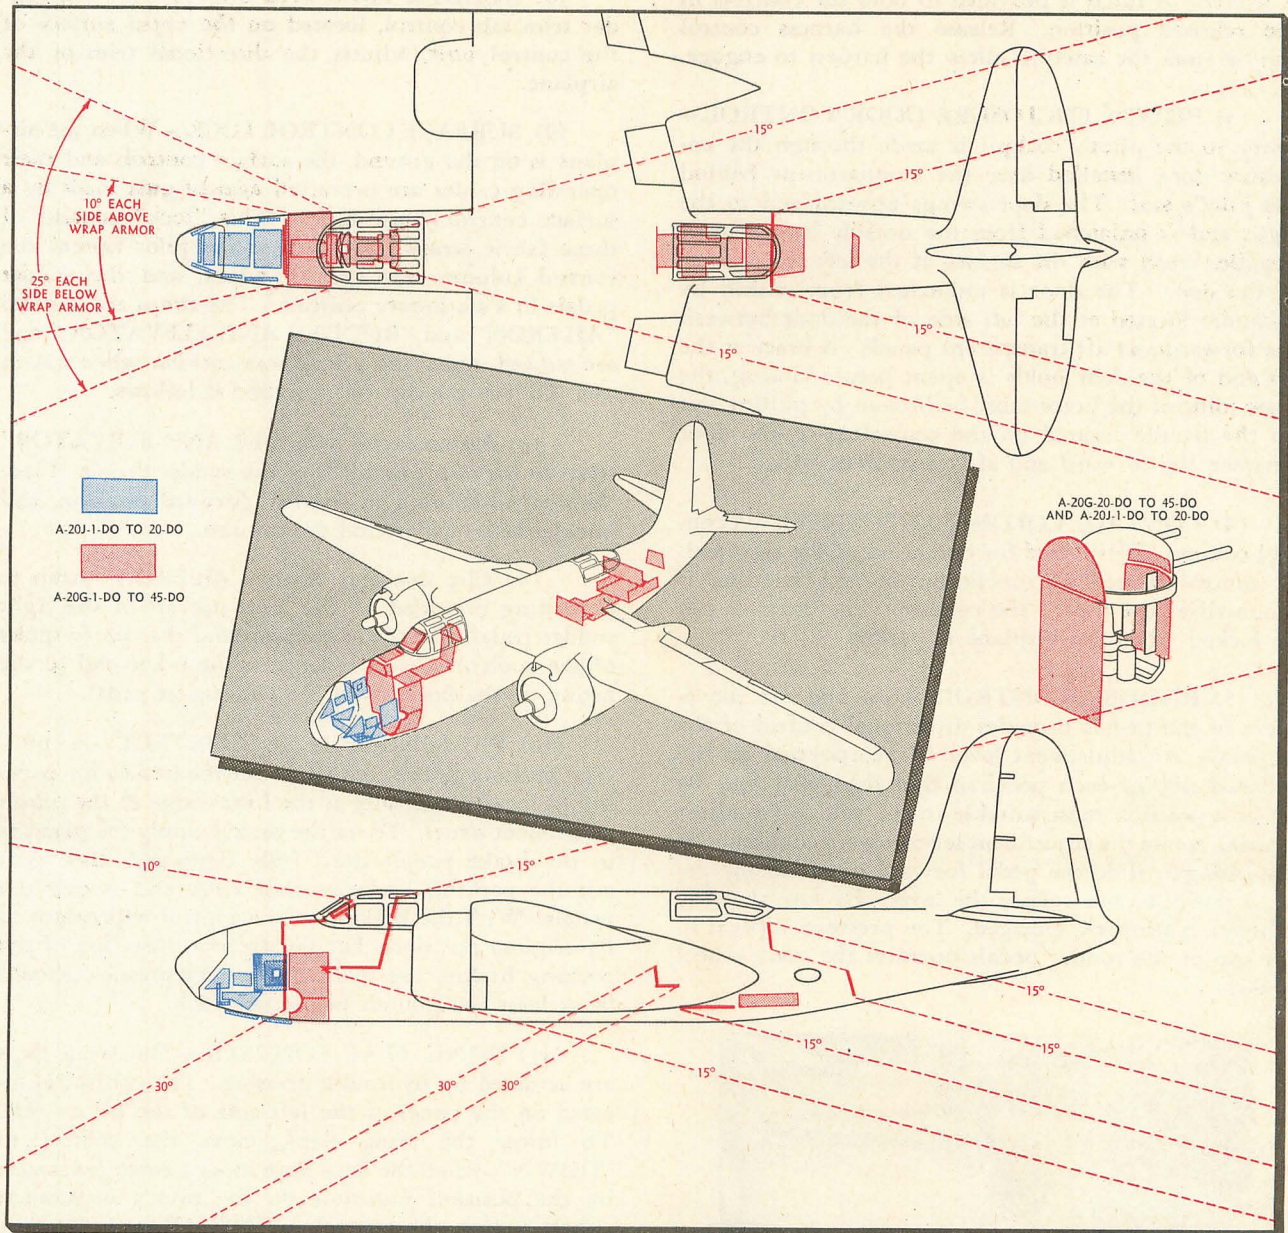

Fig. 7 – Angles of Armor Protection
d. PROTECTIVE ARMOR.—Armor is provided to protect the crew. Enemy fire, originating from within the areas graphically illustrated in Figure 7, will not reach the crew members.